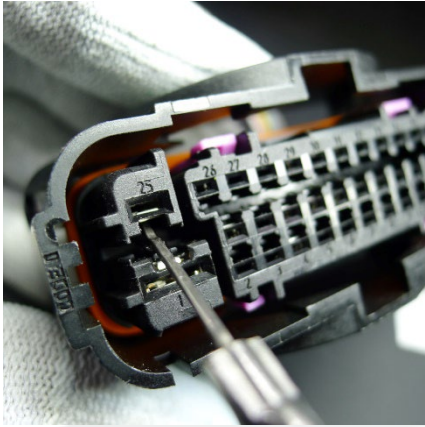
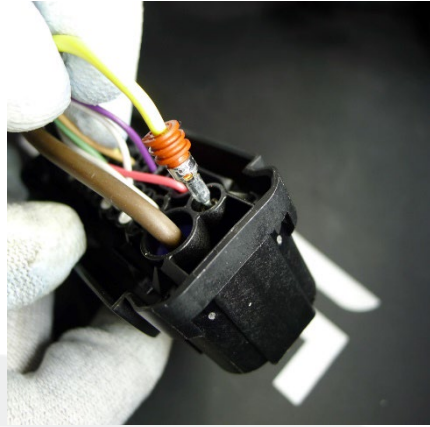

Figure 16
Figure 17
17. Use the tool from the pin drag kit to release the lock for terminal 25 of connector X151 (Figure 16), and at the same time, remove the yellow wire from receptacle 25 (Figure 17).